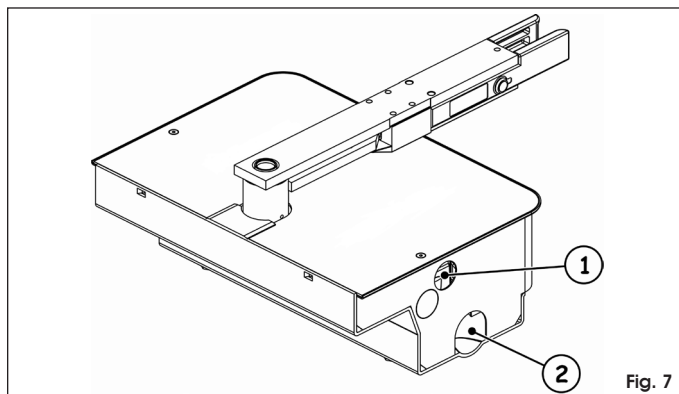

Fig. 7
- Lay down a PVC tube of diameter 35 mm through which to pass a 4 core electrical cable. The tube must reach from the box the control unit (Fig. 7 rif. ①). Lay a second tube to drain off rain water, from the box to the nearest drain (Fig. 7 rif. ②).